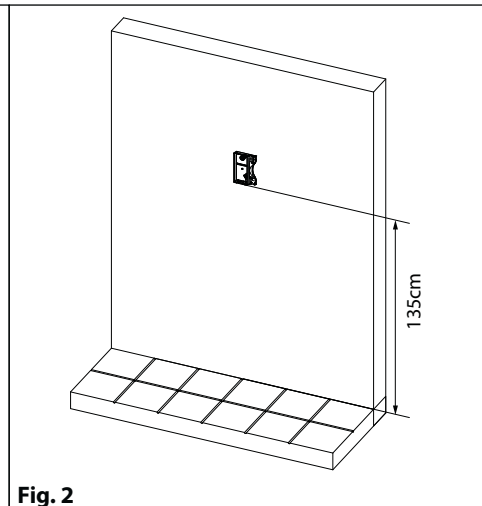
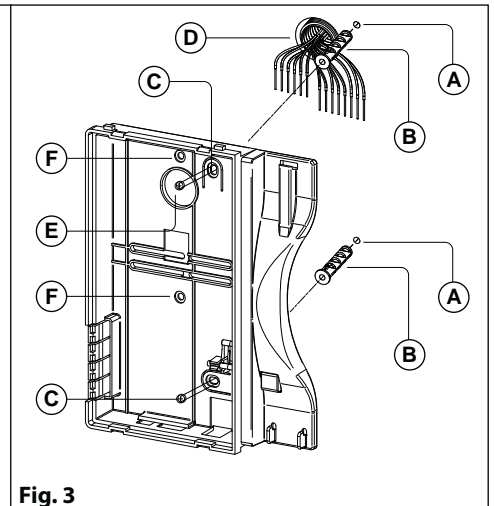

Fig. 2
Fig. 3
**In order to prevent water ingress we highly recommend using a silicon sealant between the wall and the back box C (Fig.3) and around all holes D (Fig.3);**
2. Put the base of the unit on the wall at approx 135cm from the finished floor to mark the points for the fixing holes "A" (**Fig. 2**) remembering that the wires "D" (**Fig. 3**) must be fed through the hole "E" (**Fig. 3**). If you use the flush mounting box 503, embed it into the wall vertically at approx. 140cm from the finished floor and the base.
3. Following **Fig. 3**, make the holes "A", insert the wall plugs "B" and fix the base with the screws "C" feeding the wires "D" into the hole "E". If you have used the box 503, fix the base to the wall through the holes "F" using the screws "C".